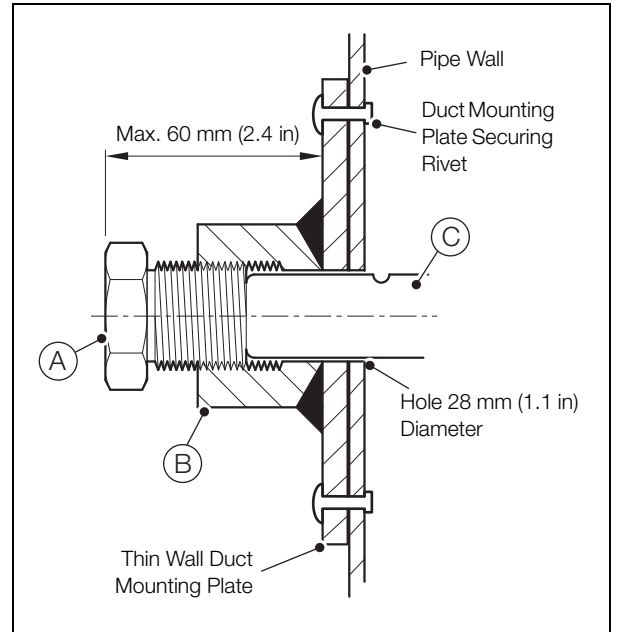

Fig. 2.9 Threaded Model FPD350.T4.E2 Thin Wall Duct Mounting Plate Support Plug
11. Referring to Fig. 2.9, screw support plug (A) into threaded fitting (B) and tighten, ensuring that:
- a. support plug (A) contacts the Torbar (C)
- b. the distance between the head of support plug (A) and the pipe wall does not exceed 60 mm (2.4 in).